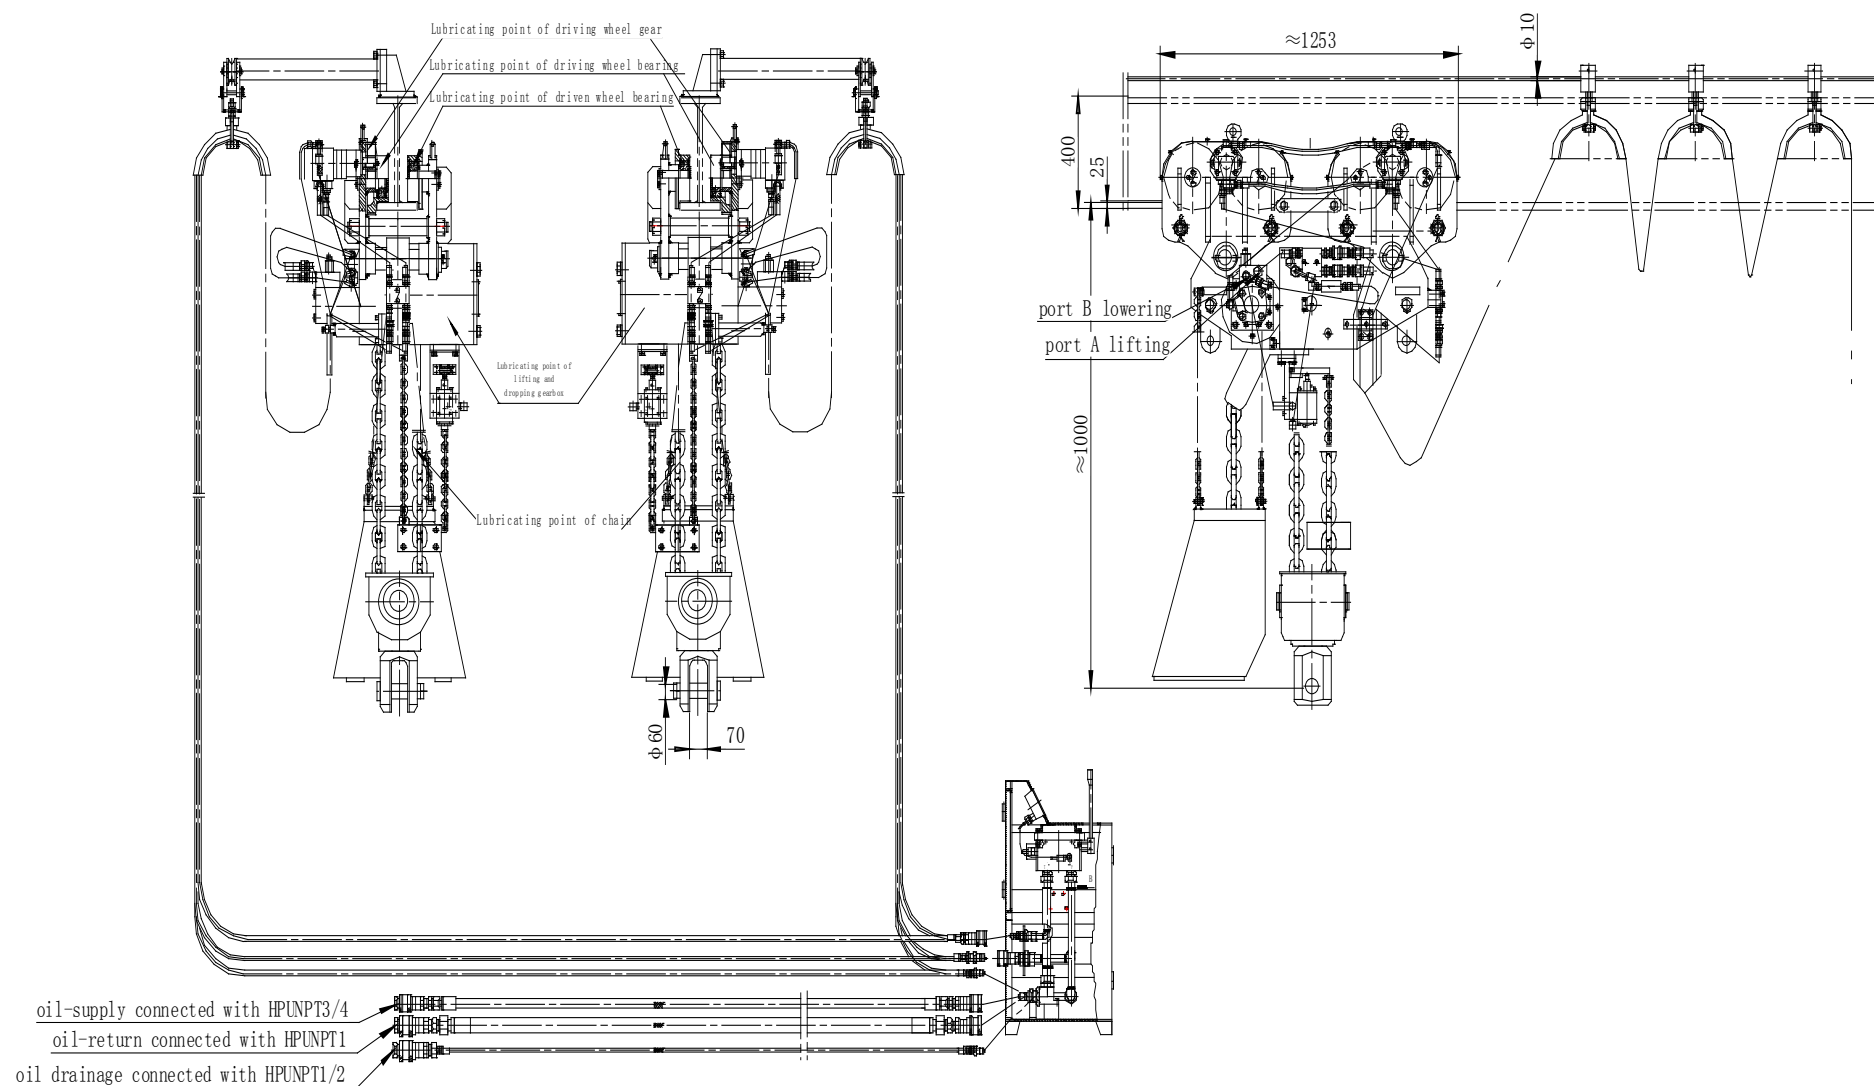

Fig.3 Lubricating Drawing
7.2 Carry out maintenance before every installation to handling system. For each BOP handling system, there are eight (8) lubricating points on driving wheel gear, two (2) sets of lubricating points on chain, two (2) lubricating points on lifting gear box. Fill grease in lubricating points on driving wheel gear, coat lubricating oil on surface of chain lubricating points. There are five (5) lubricating points on lifting gear box, filled with lubricating oil. Other lubricating positions: four (4) on travel reducing box, eight (8) on driving wheel bearing, eight (8) on driven wheel bearing. Fill lubricating oil for all positions at time of overhaul. See Fig.3 for Lubricating Position